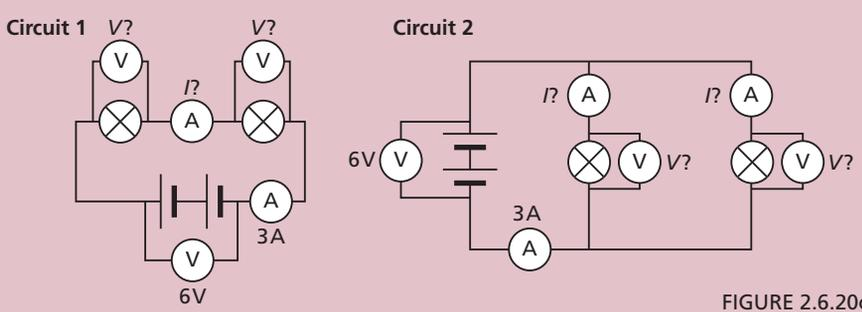

FIGURE 2.6.20c
14. Figure 2.6.20c shows a series circuit (1) and a parallel circuit (2). Calculate the missing voltages and currents. Explain the reasons for your values. [4]